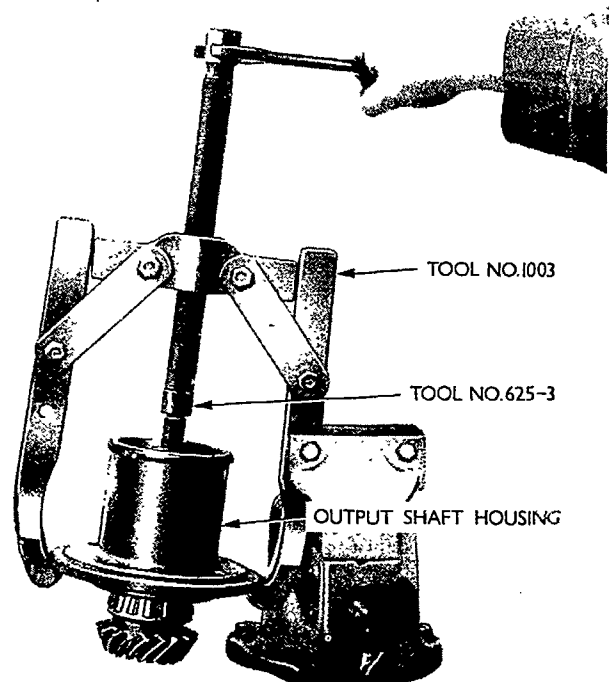

Figure 7
7. Remove the output shaft from the housing using Tools Nos. 1003 and 625-3 shaft protector, Figure 7.